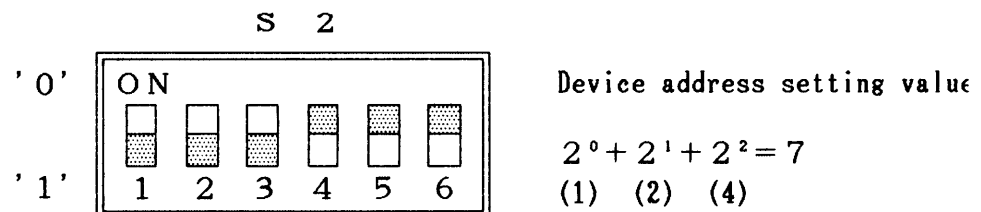

Figure 7-1
- c) Figure 7-1 shows how S2 is set for address "07".